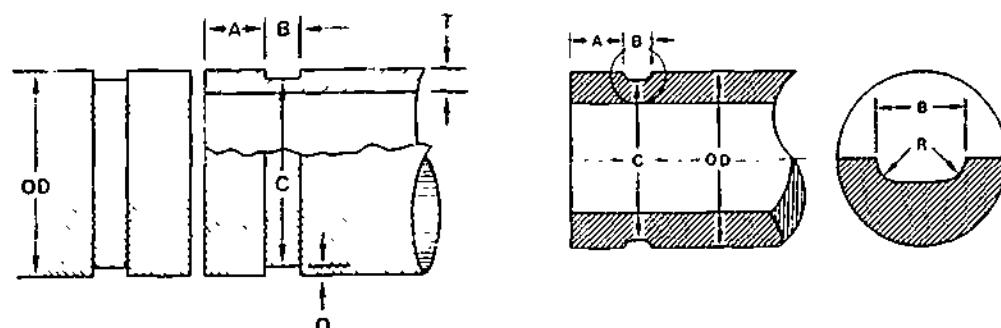

Figure 13-2. Dimension Standards
c) Grooving dimensions are very important. The groove provides for coupling engagement to lock the joint, yet there also must be enough wall thickness under the groove for pressure service. This is easily done by ensuring that all grooves are in accordance with dimension standards published in Victaulic catalogues and grooving-tool instruction brochures (see Figure 13-2).